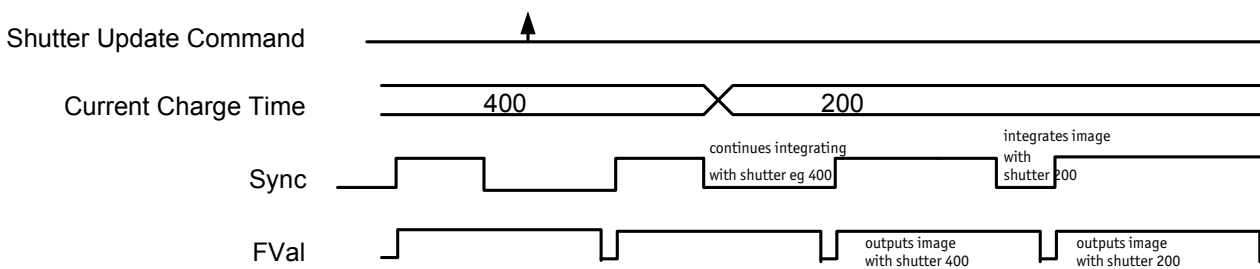

Figure 71: Former standard timing
- The delay from shutter update until the change takes place: up to 3 frames. Figure 71: Former standard timing on page 152 demonstrates this behavior. It shows that the camera receives a shutter update command while the sensor is currently integrating (Sync is low) with shutter setting 400. The camera continues to integrate and this image is output with the next FVal. The shutter change command becomes effective with the next falling edge of sync and finally the image taken with shutter 200 is output with a considerable delay.